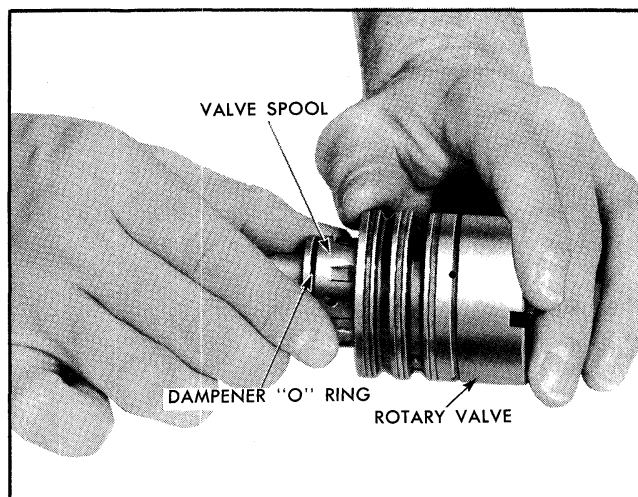

Fig. 9A-15 Removing Valve Spool from Rotary Valve
2. Tap end of stub shaft assembly gently against workbench to remove valve spool (Fig. 9A-14).